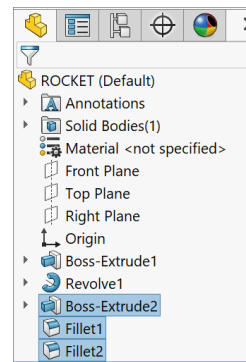

Fig. 32
Step 2. **Ctrl click Boss-Extrude2 and both Fillets** features to select plane and feature, **Fig. 32**.